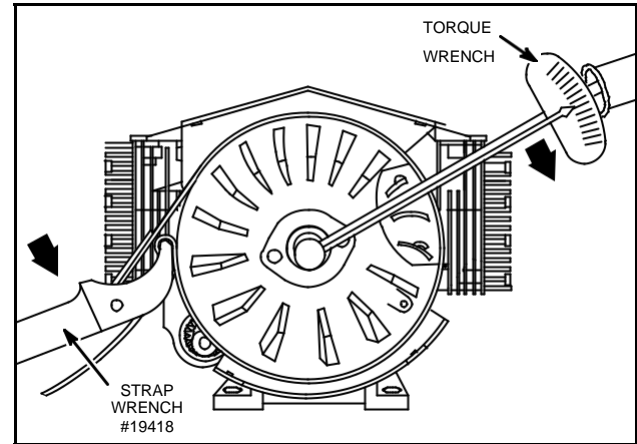

Fig. 13 – Torque Flywheel Nut – Pre Twin II
3. Torque flywheel nut or rewind clutch to 150 Ft. Lbs. (203 Nm), Fig. 13.